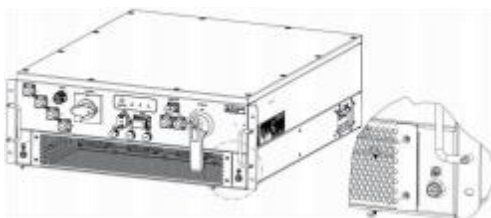

Figure 10-1 Fan inlet panel
Step 2: Loosen the screws on the air inlet panel on the front side of the converter with a recommended torque of 1.5 N·m. Remove the air inlet panel as shown in Figure 10-1.